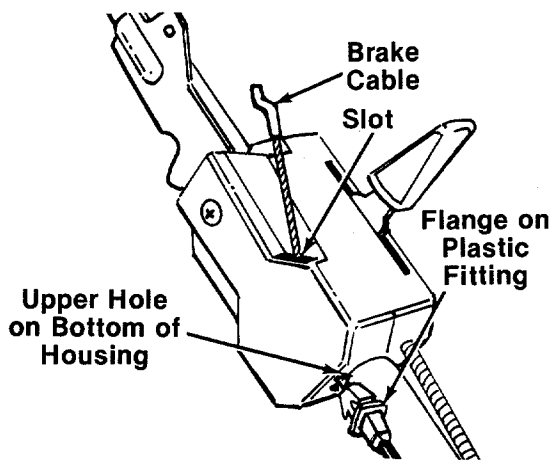

FIGURE 4.
5. The brake cable is attached to the engine. Route the brake cable under the lower handle. Place end of cable into the upper hole on the bottom of the control housing, and through the slot on the side of the housing as shown. The angle of the flange on the plastic fitting must be positioned downward as shown in figure 4. Be careful not to bend or kink the cable.